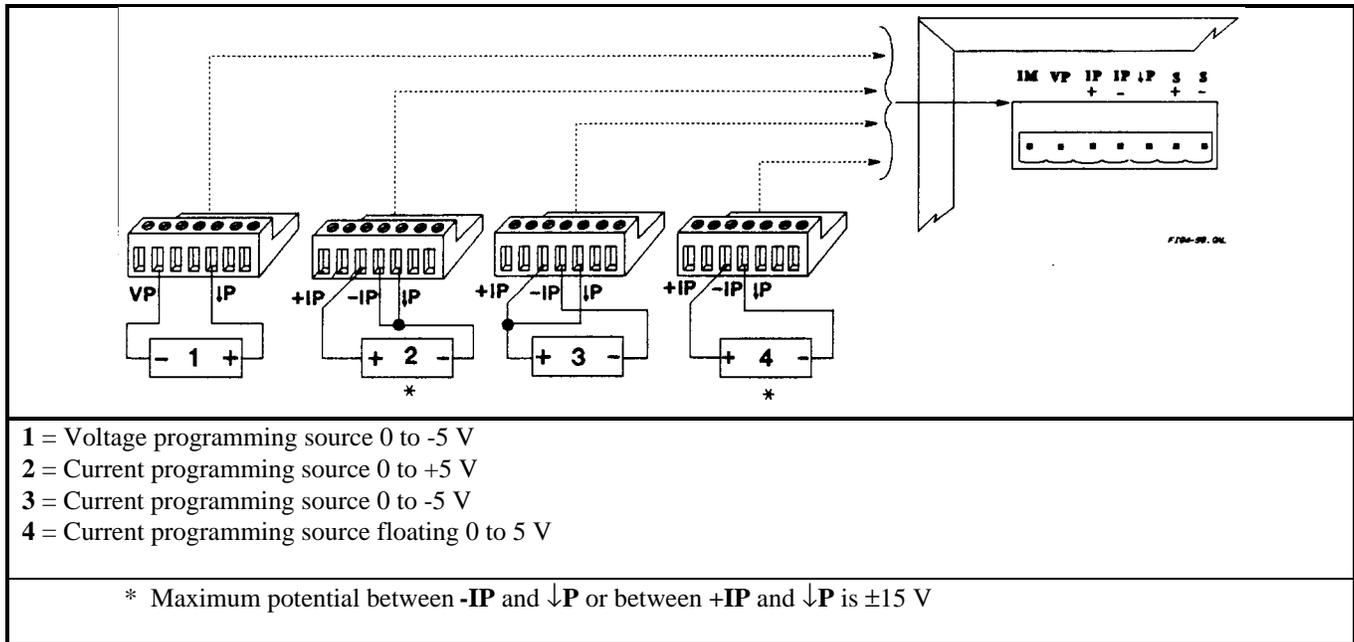

Figure 4-5g. Series 668xA Analog Programming Connections
The setup shown in Figure 4-5g allows an external dc voltage to program the power supply output. A zero-to-full scale voltage applied to the voltage programming input produces a proportional zero-to-full scale output voltage. The voltage programming source is referenced to the programming **Common P** ( $\downarrow P$ ) terminal. A zero-to-full scale voltage applied to one of the current programming inputs produces a proportional zero-to-full scale output current. See Figure 4-1 for an explanation of these programming input connections.
**Wiring Considerations (Figure 4-5g)**